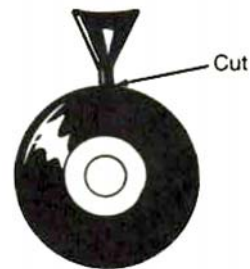

Figure 10
3. Trim off excess compound from filler spout by cutting off at base. (Figure 10)